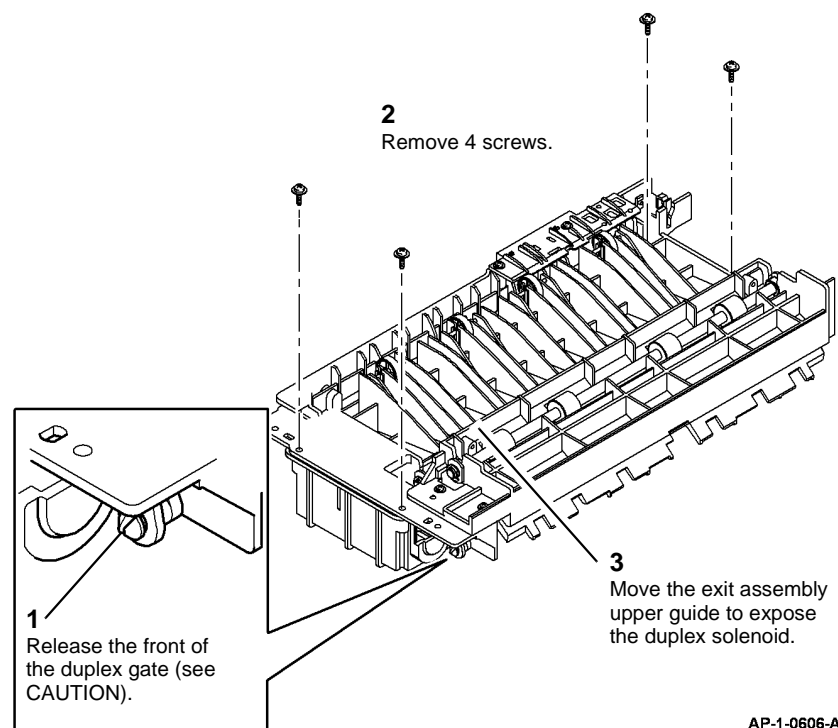

Figure 2 Removing the Duplex Gate and Exit Assembly Upper Guide
3. Remove the Duplex Gate and Exit Assembly Upper Guide (Figure 2).